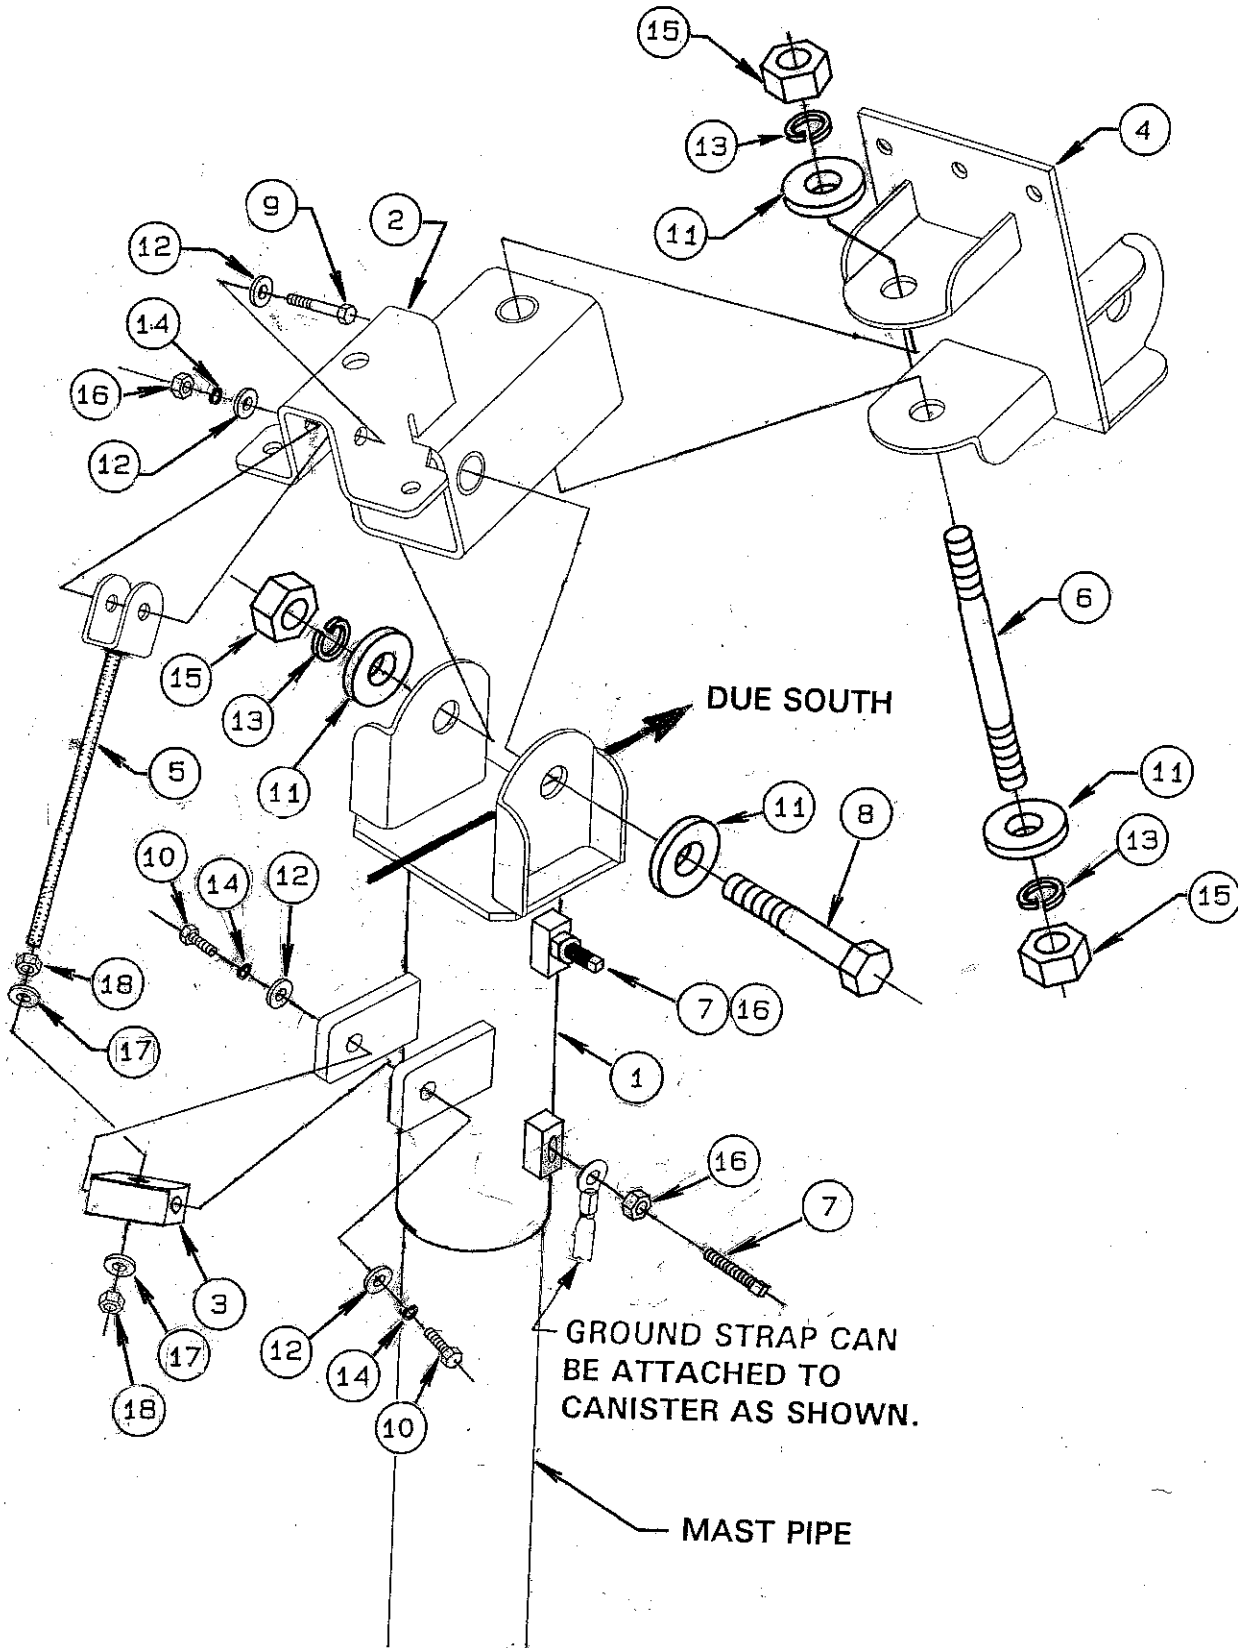

FIGURE 2.1-2
**STEP 1:** Attach the actuator plate (item# 1) to the universal joint with [2] 1/2-13 x 1.50" bolts, [4] flatwashers, [2] lockwashers, and [2] hex nuts (item# 4,5,6,7). See figure 2.1-2. Tighten securely.
**STEP 2:** Attach the actuator arm (item# 2) to the hour angle pivot with [2] 1/2-13 x 1.50" bolts, [4] flatwashers, [2] lockwashers, and [2] hex nuts (item# 4,5,6,7) in the two outer holes. Run [1] 1/2" hex nut and [1] flatwasher (item# 5,7) well up onto the declination adjustment rod (item# 3) and insert the rod thru the center hole of the hour angle pivot and secure with another flatwasher and hex nut (item# 5,7) as shown in figure 2.1-2.